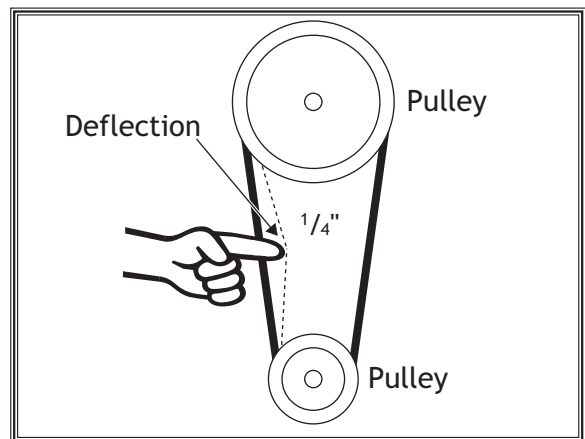

Figure 87. Measuring V-belt deflection between lower wheel pulley (top) and motor pulley (bottom).
4. Check V-belt tension by applying moderate pressure between pulleys (see **Figure 87**).